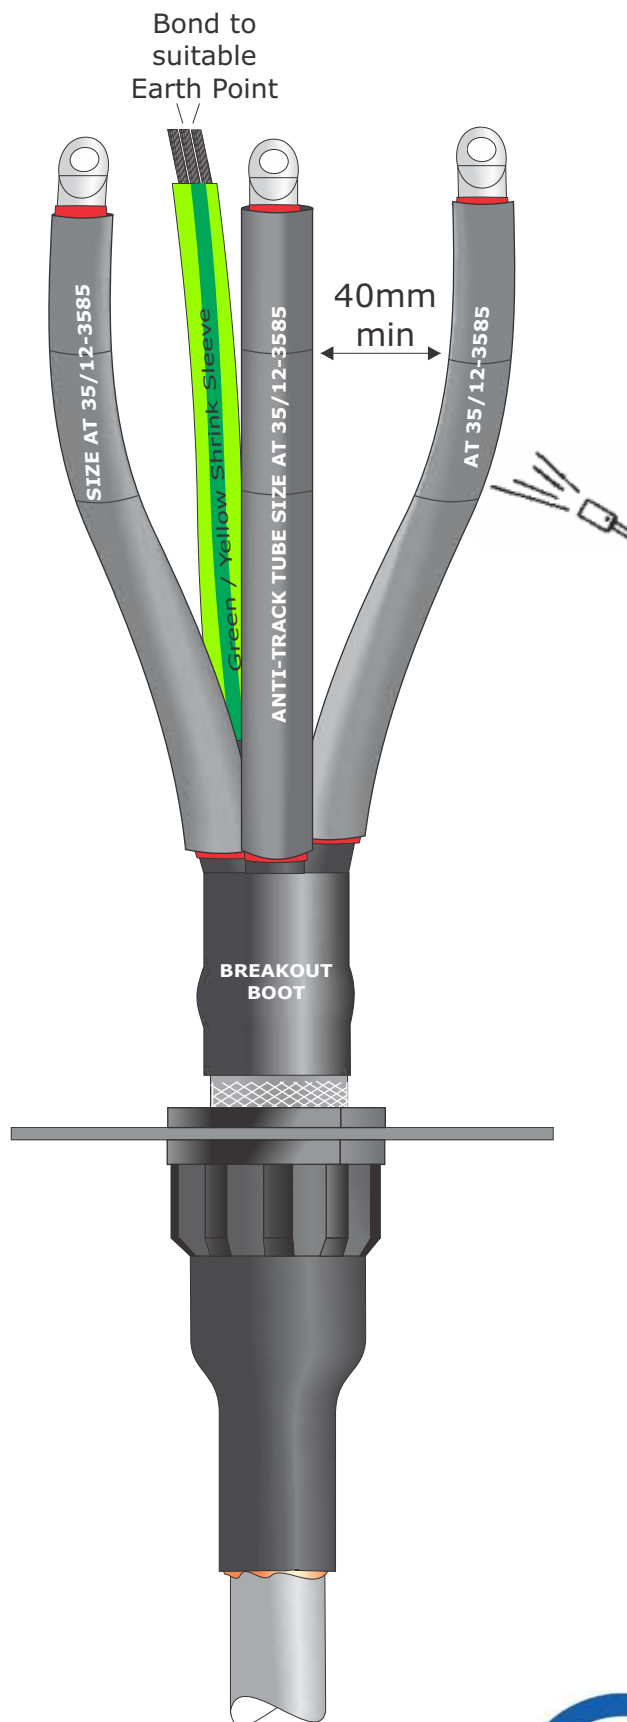

Fig 6
11. Position the anti-track tubes so that they cover the fingers of the breakout boot and lug barrels as shown in Fig 6.